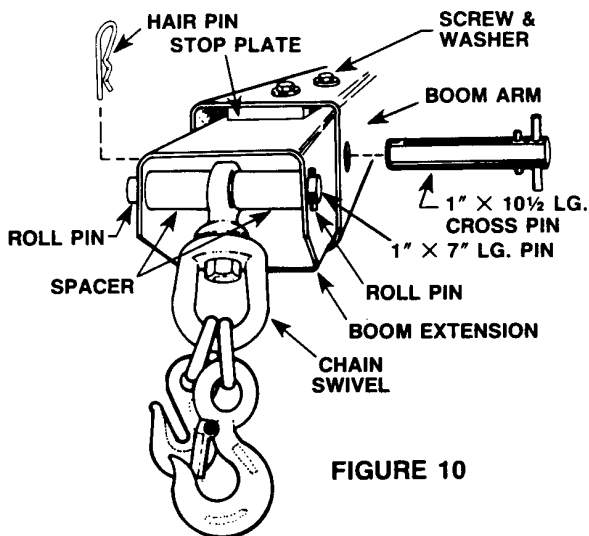

FIGURE 10
16. Slide the boom extension into the boom arm, and fasten the stop plate inside the top surface of the boom arm. See Figure 10. Insert the 1" x 10-1/2" lg. cross pin through the arm and extension. Secure with a 3-3/4" lg. hair pin.
17. Install the chain swivel on the end of the boom, centered by a spacer (1" I.D. x 2-1/8" lg.) located on each side of the swivel. Fasten the 1" x 7" lg. pin in place with a 1/4" x 1-1/2" lg. roll pin set into each end. See Figure 10.